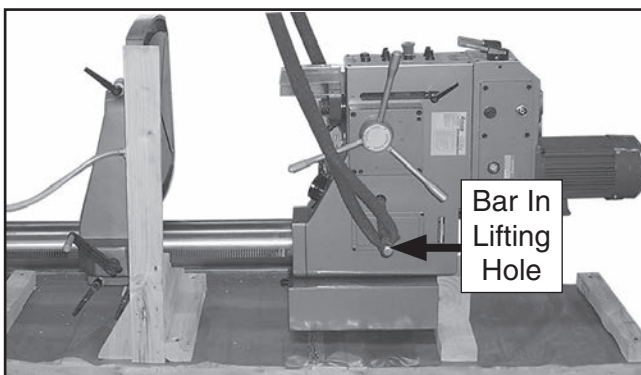

Figure 5. Strap around bar in lifting hole.
2. Remove top portion of crate from the shipping pallet, secure the ends of a properly rated lifting strap around each side of the bar placed through the lifting holes, and attach it securely to your power lifting equipment (see Figure 5).